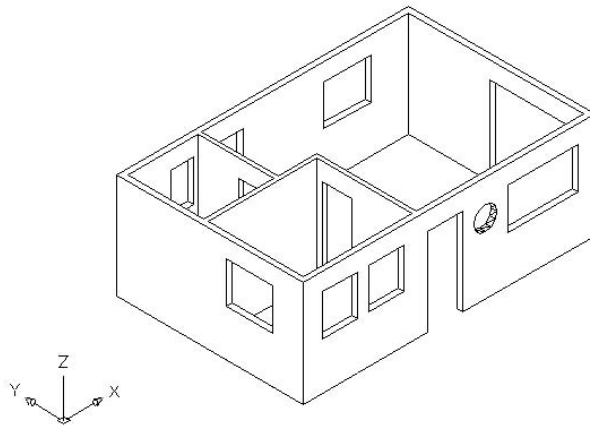

FIGURE A.10: The finished cabin walls solid, after a Hide
10. Choose **View > Hide**. The shell of the cabin walls is complete (see Figure A.10).